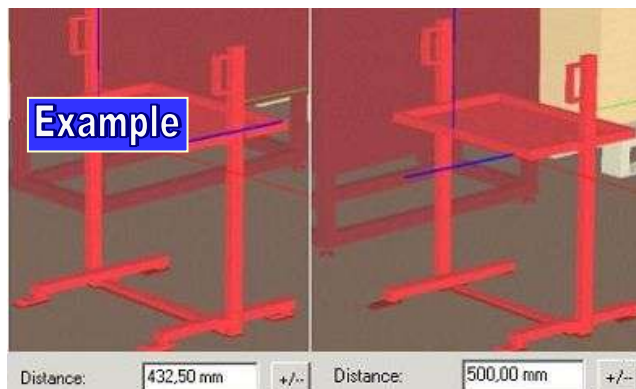

Figure 51: Example: Translating a Line with Two Points on the Graphic Object
- 3) Click **Apply**; the graphic object is translated. Press **Close** button to close the dialog. *Please refer to the Figure 51.*